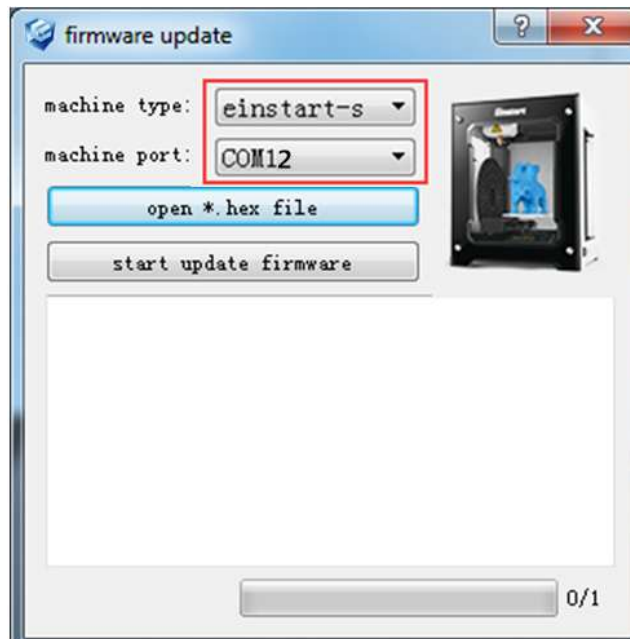
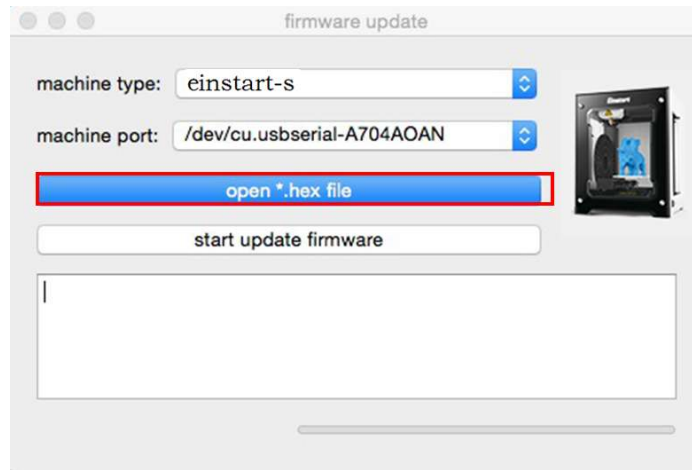

Figure 6.6.2
Figure 6.6.3
2. Select serial device, see figure 6.6.2 for Windows and figure 6.6.3 for Mac.